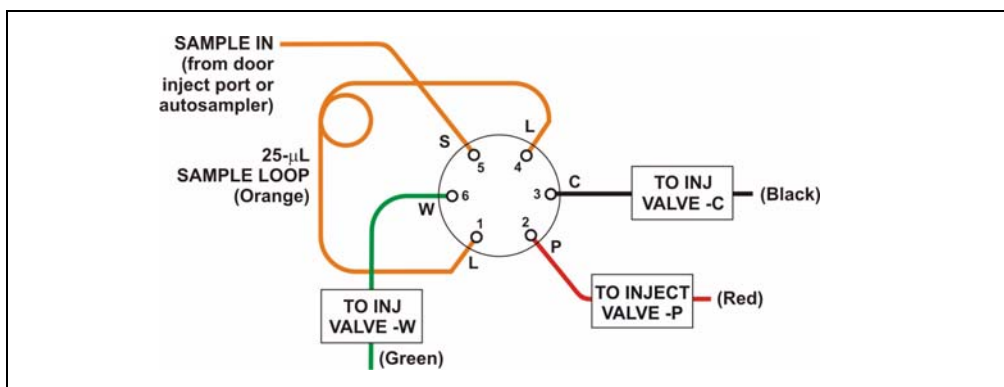

Figure 3-12. Injection Valve Connections
1. Make sure the injection port on the ICS-2000 front door (see Figure 2-1) is connected to the sample port **S** (5) on the injection valve (see Figure 3-12).
1. Disconnect the waste line from port **W (6)** of the injection valve (see Figure 3-12) and attach a shorter line: 25 to 30 cm (10 to 12 inches) of PEEK or Teflon® tubing.